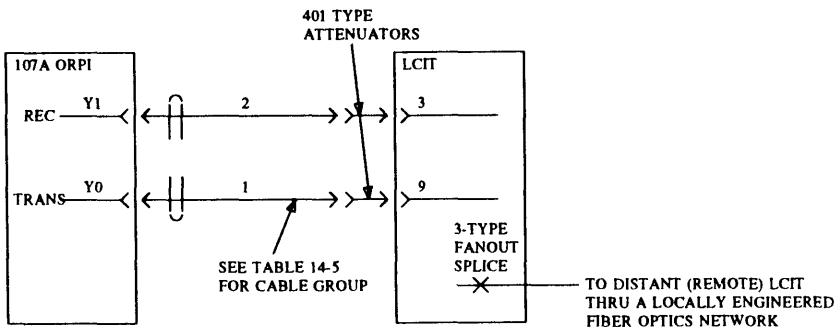

Figure 14-18. ORPI to Central LCIT Connections
Use table 14-5 to determine the proper cable group. Make the connections between the LCIT and ORPI using the selected cable and figure 14-18. Cables with 50 micron diameter are coded blue (1) or white (2); 62.5 micron cables are gray and stamped with “1” or “2.” DEFINITY Generic 2 installations will use the 3B/ST fanouts. Previously installed systems use 3B biconic fanouts, but they will not have to be replaced. For LCITs with biconic connectors, GRP465 must be used with GRP509.